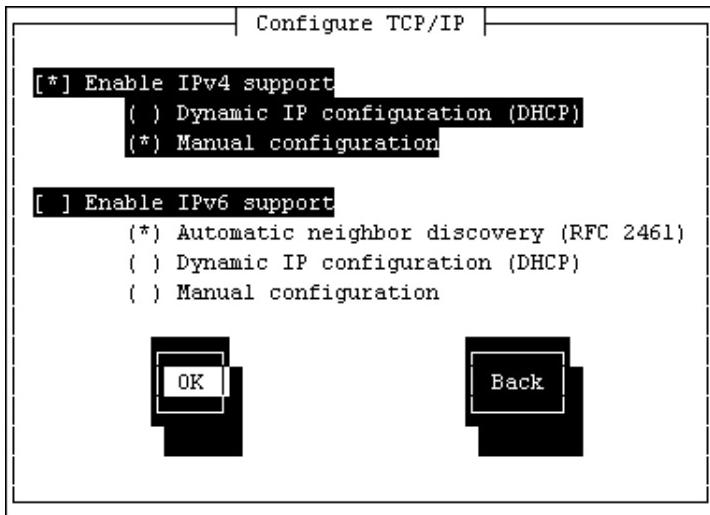

Figure 8-11 TCP/IP configuration panel
6. To configure DHCP, select either IPv4 or IPv6 support and then Dynamic IP configuration (DHCP) from the TCP/IP window. Then select **OK**. See Figure 8-11 on page 346 for more details and skip steps 7 and 8.
As an example, if you wish to configure static IP parameters with IPv4 support, configure the TCP/IP parameters and **Enable IPv4 support**, then select **Manual configuration** and disable **Enable IPv6 support** as shown in Figure 8-11, and configure the device as shown in Figure 8-12 on page 346.